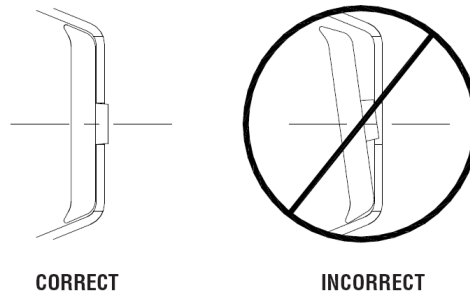

Figure 62
- Be sure Mushroom Washer lays flat against the Fender Panel as shown in Figure 62. Standoff on washer must be seated completely through slot.
Be sure Mushroom Washer lays flat against the Fender Panel as shown in Figure 62. Standoff on washer must be seated completely through slot.